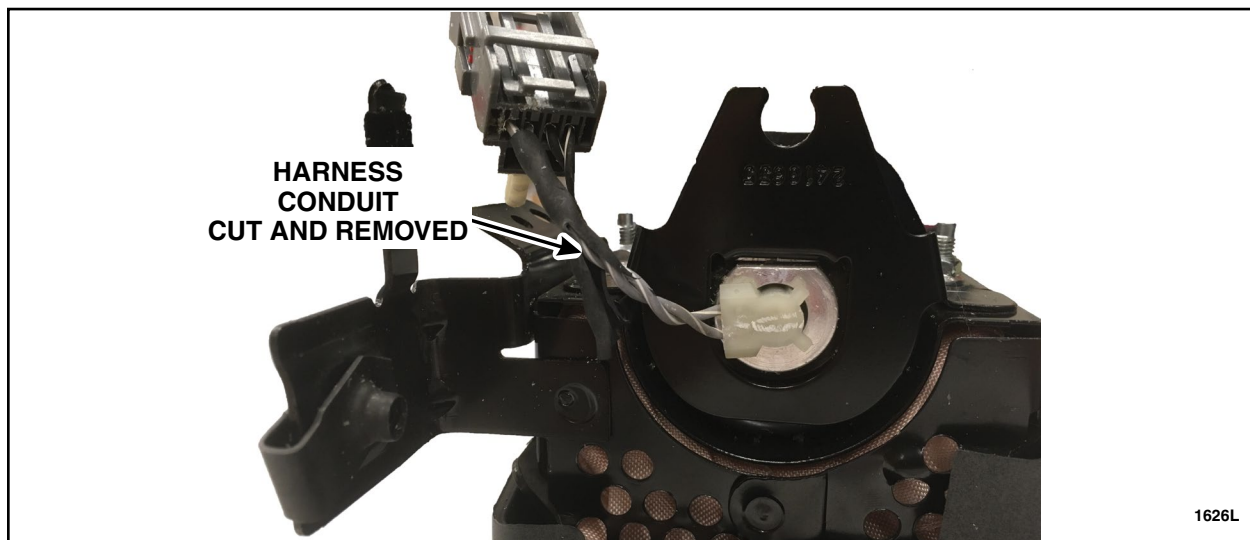

FIGURE 2
NOTE: Carry out this step on the shorter wire on the end opposite of the airbag inflator retaining bracket. See Figure 2.
4. Remove the black conduit from the passenger airbag assembly wire harness in the area shown. See Figure 2.